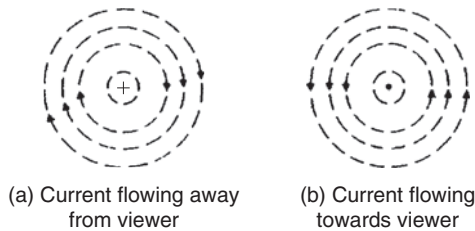
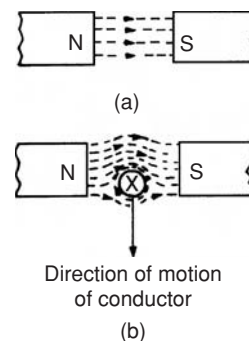

Figure 8.3
Figure 8.13
When dealing with magnetic fields formed by electric current it is usual to portray the effect as shown in Fig. 8.3 The convention adopted is:
- (i) Current flowing away from the viewer, i.e. into the paper, is indicated by \odot . This may be thought of as the feathered end of the shaft of an arrow. See Fig. 8.3(a).
- (ii) Current flowing towards the viewer, i.e. out of the paper, is indicated by \ominus . This may be thought of as the point of an arrow. See Fig. 8.3(b).
For example, with current flowing away from the viewer (Fig. 8.3(a)) a right-hand thread screw driven into the paper has to be rotated clockwise. Hence the direction of the magnetic field is clockwise.
If the current-carrying conductor shown in Fig. 8.3 (a) is placed in the magnetic field shown in Fig. 8.13(a), then the two fields interact and cause a force to be exerted on the conductor as shown in Fig. 8.13(b). The field is strengthened above the conductor and weakened below, thus tending to move the conductor downwards. This is the basic principle of operation of the electric motor (see Section 8.4) and the moving-coil instrument (see Section 8.5).